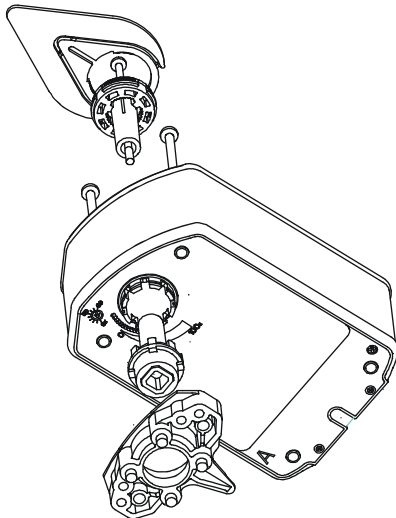

**Figure 4: Positioning the Valve Stem**
1. Turn the valve stem to the position outlined in Figure 4.